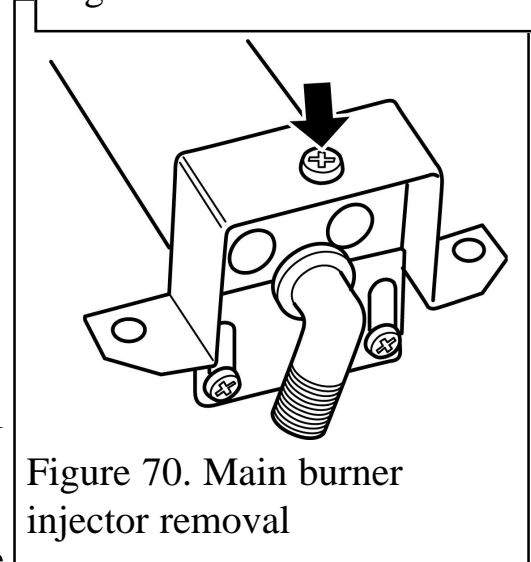

Figure 70. Main burner injector removal
(See figure 70).
2. Remove the burner clamping screw (See figure 70)